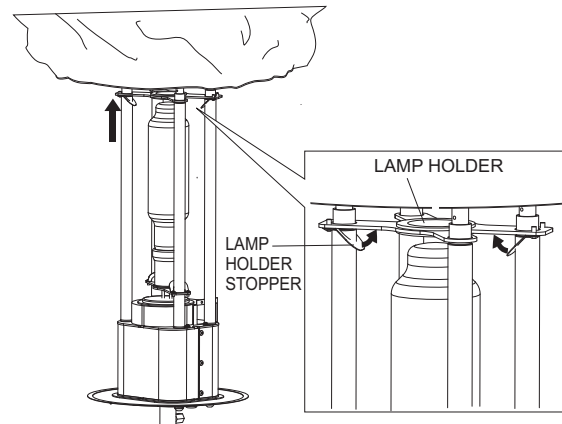

Figure 37. Lamp Holder
4. Press the tabs on the lamp holder and push up lamp holder to release it from lamp. See Figure 37.